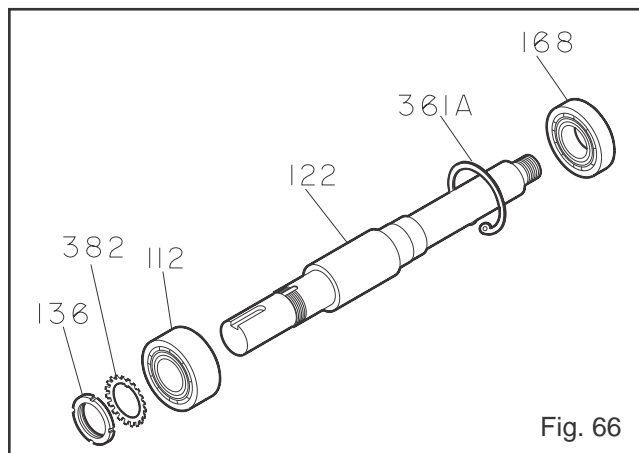

Fig. 66
8. Remove bearing locknut (136) and bearing lock washer (382) (Fig. 66).